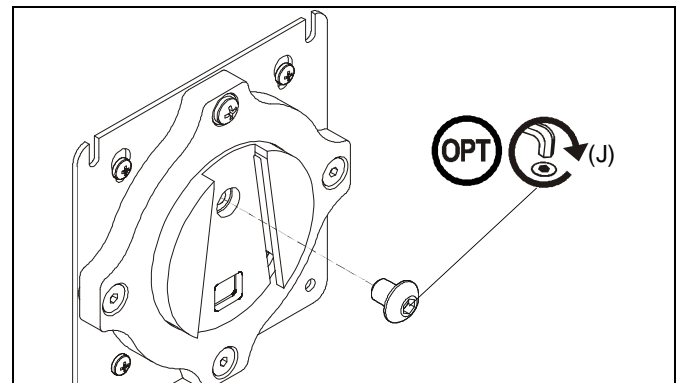

Figure 8
NOTE: (Optional) Rotational adjustment may be locked by installing rotational locking screw (J) into back of faceplate. (See Figure 8)